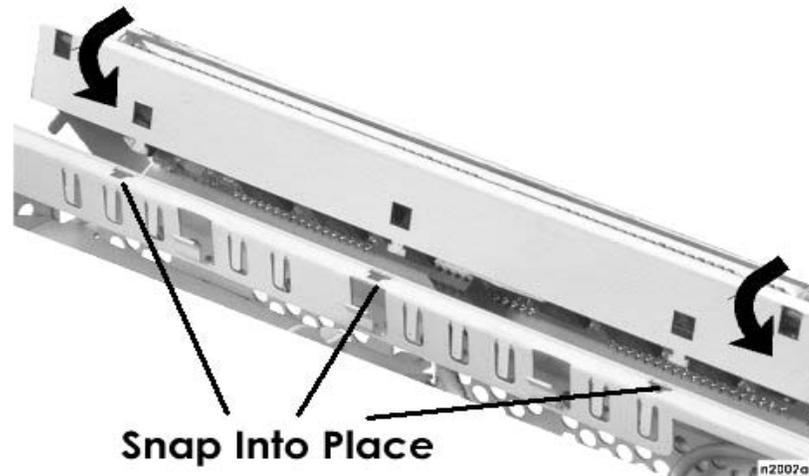

Figure 3-16: Attaching the Customer Display Bracket to the Chassis
5. Rotate the customer display bracket towards the chassis until it snaps into place. Figure 3-16. You may have to squeeze the top of the bracket to line it up with the holes in the top of the chassis.